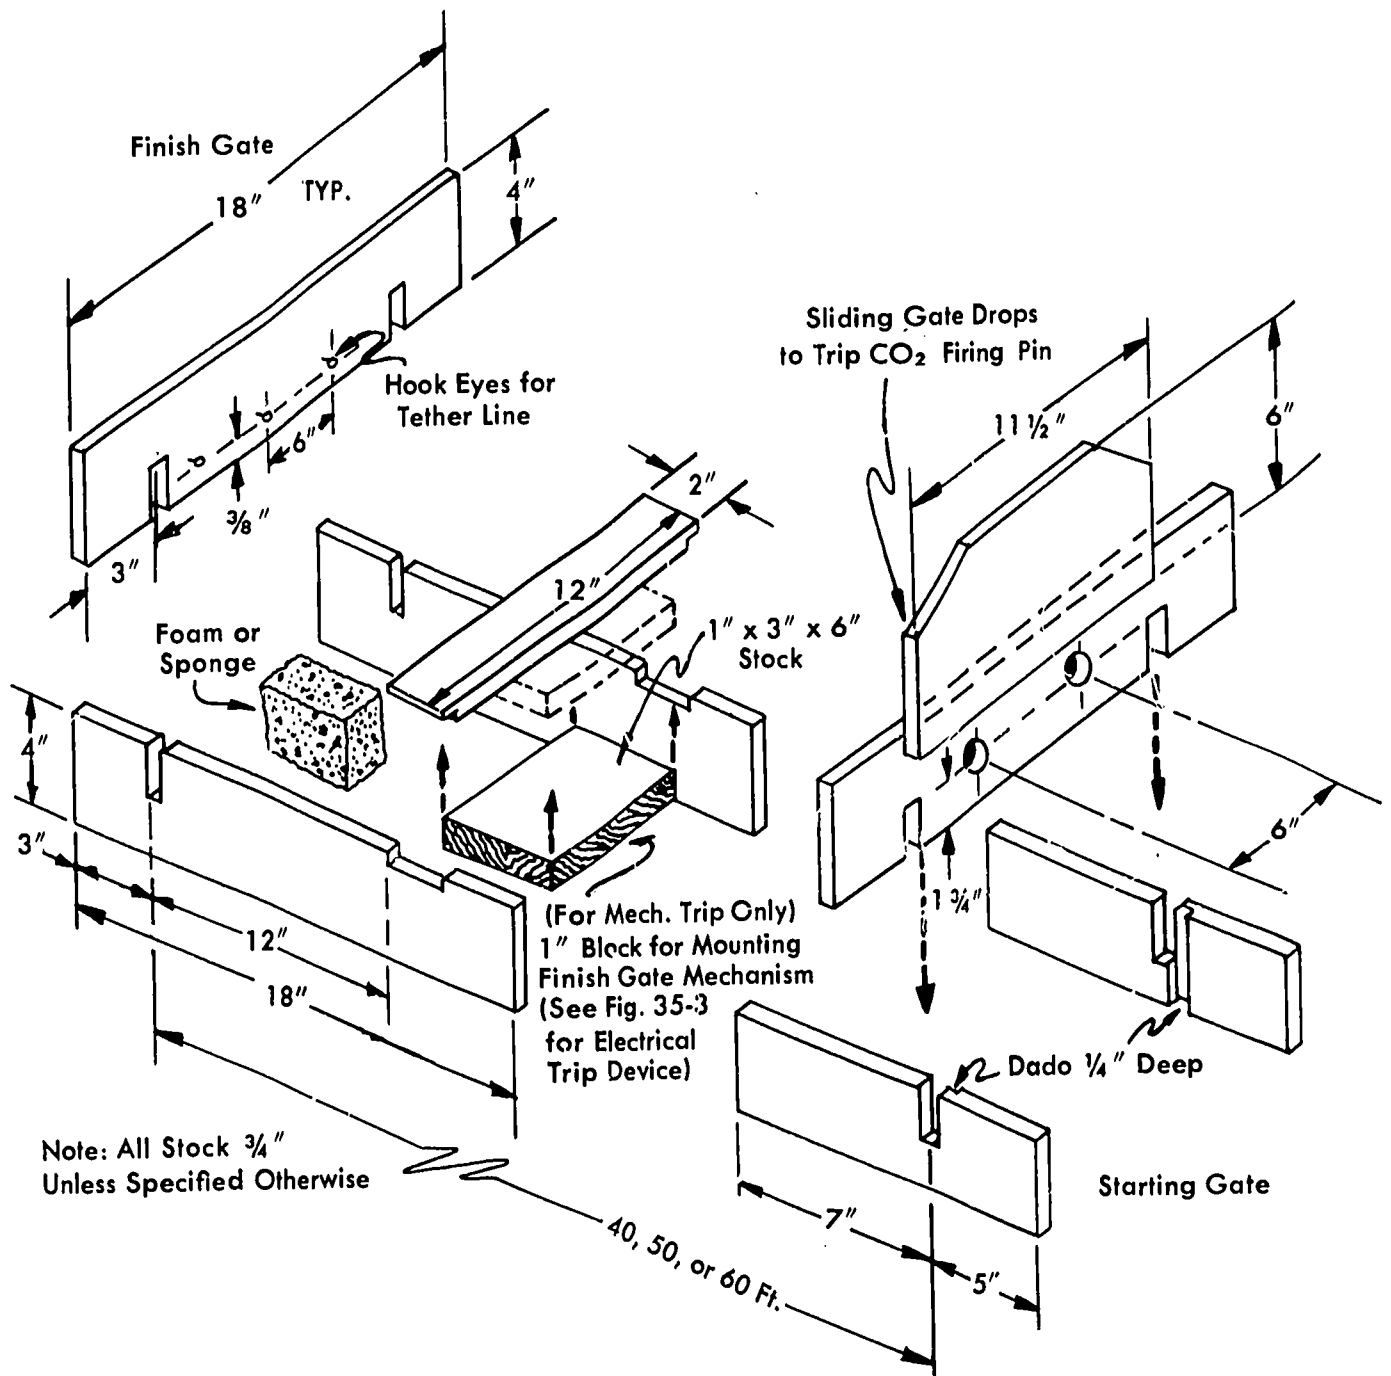
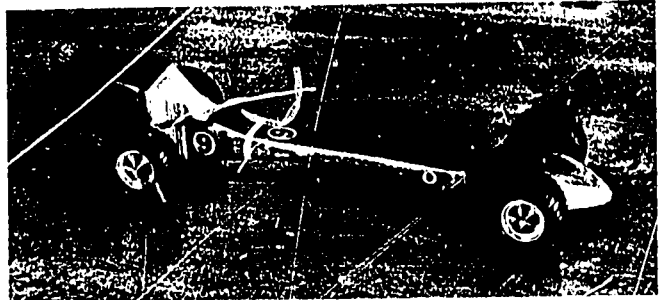

Fig. 35-1. Start-Finish Gate Assembly
Fig. 35-13. Model LSRAV
1. Have start/finish gates set up and both tether lines strung. Tension on tether lines can be achieved by moving start/finish gates. See Figs. 35-1 to 35-11 and Figs. 35-13 to 35-17.